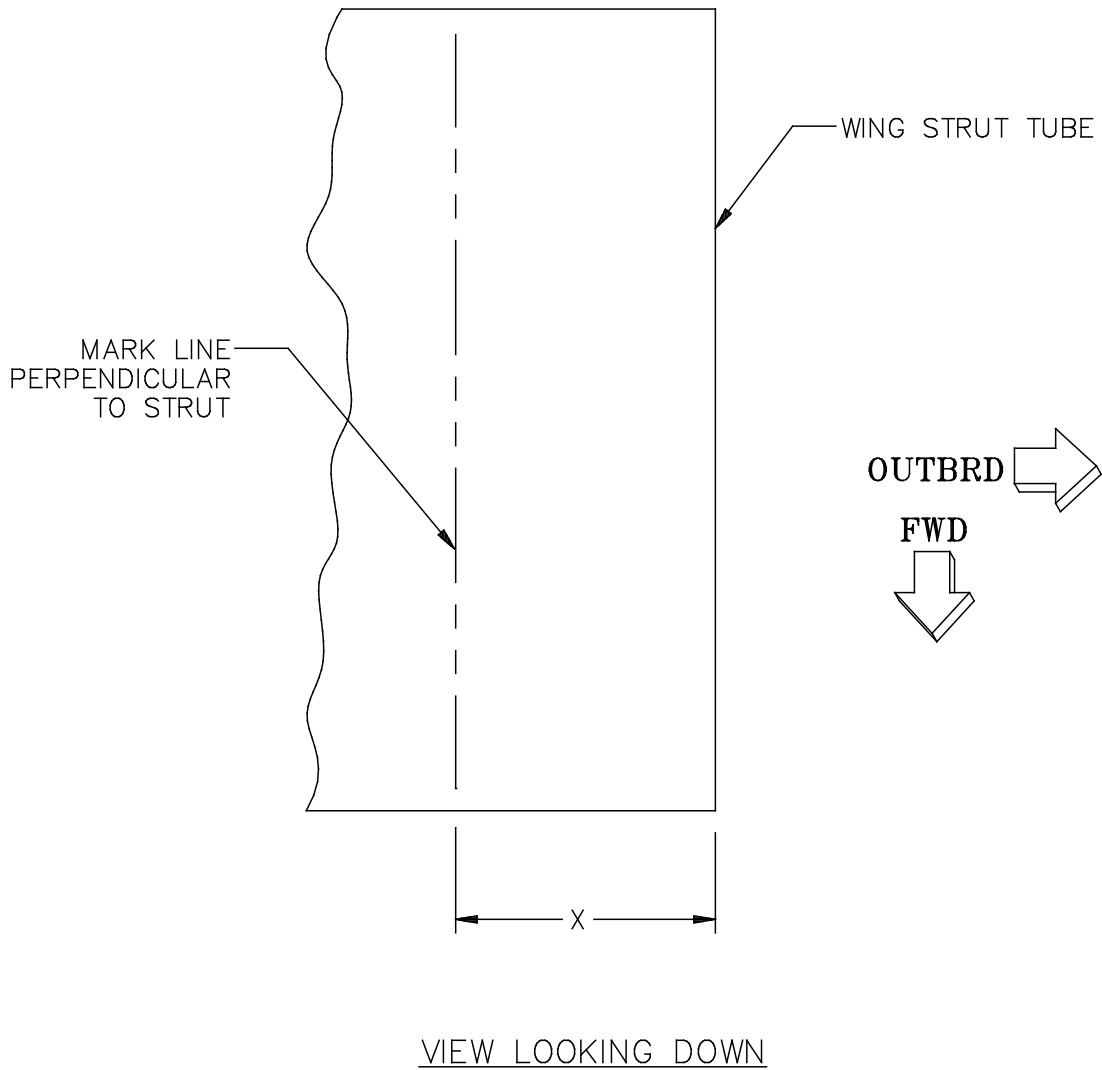

Figure 69: Marking the Distance Determined in Step C onto the Wing Strut
- D)** Measure from the **outboard** end of the wing strut the distance X determined in Step C, and mark a line onto the **upper** surface of the strut perpendicular to the length of the strut, as shown in Figure 69. Use a fine-point felt-tip pen to make the mark.